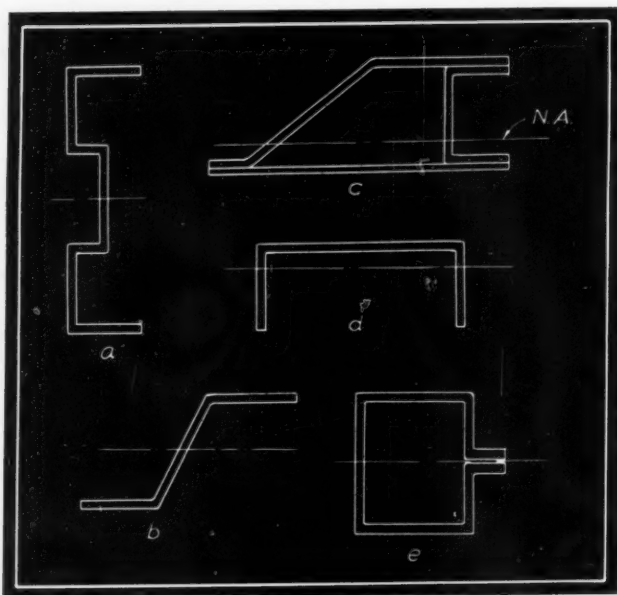

Fig. 6—Tests provide a proper means for evaluating strengths of such parts as these which fail to develop their full strengths as computed by usual theory
**FORM FACTOR IN HEAVY SECTIONS**—The term "Form Factor" applies to a certain class of sections, regardless of thickness of material, that fail to develop their full strengths as computed by usual theory. And these cannot be properly classed as local failure. Fig. 6 shows several such sections. They have one feature in common, that the webs are so located with respect to the flanges or so sloped, without adequate structure to absorb the lateral thrust from these webs, that the properties of the flanges are not fully developed. Tests provide a proper means for evaluating the strength. The strength of the member